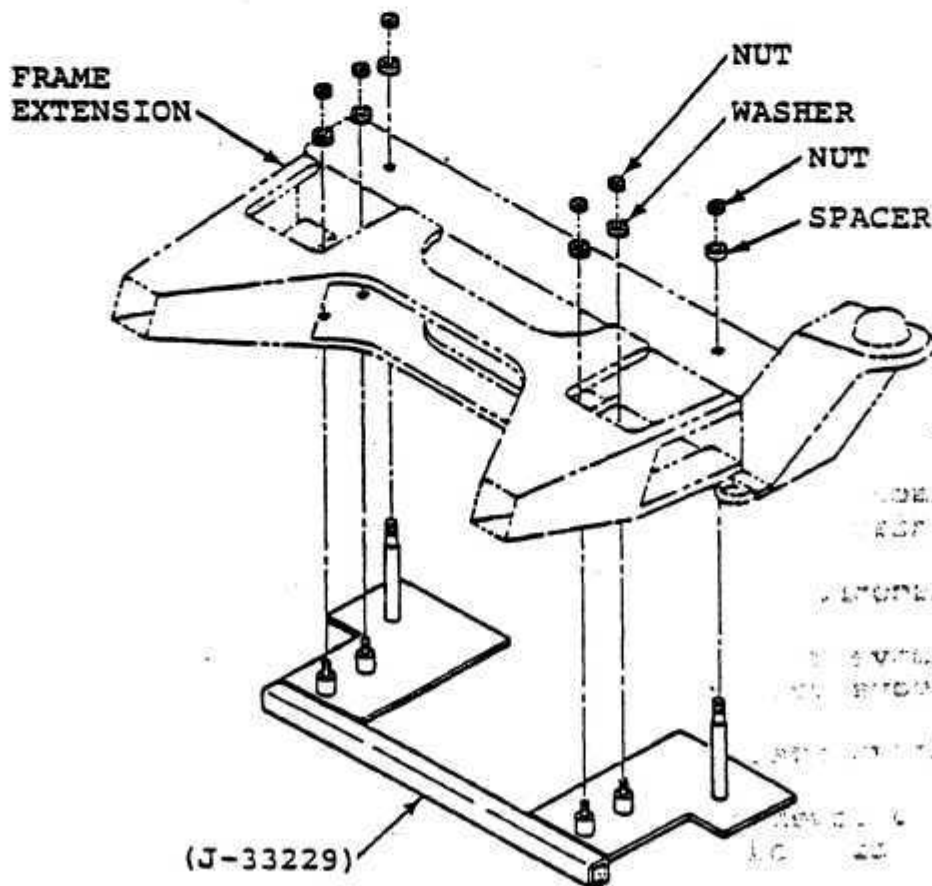

FIGURE 1
17. Attach alignment jig J-33229 loosely to front cross member (See Figure 1).
18. Attach new front frame extension (Part No. 105289) to alignment jig J-33229 (See Fig. 1). Tighten all fasteners on alignment jig while simultaneously checking positioning of frame extension to cross member.